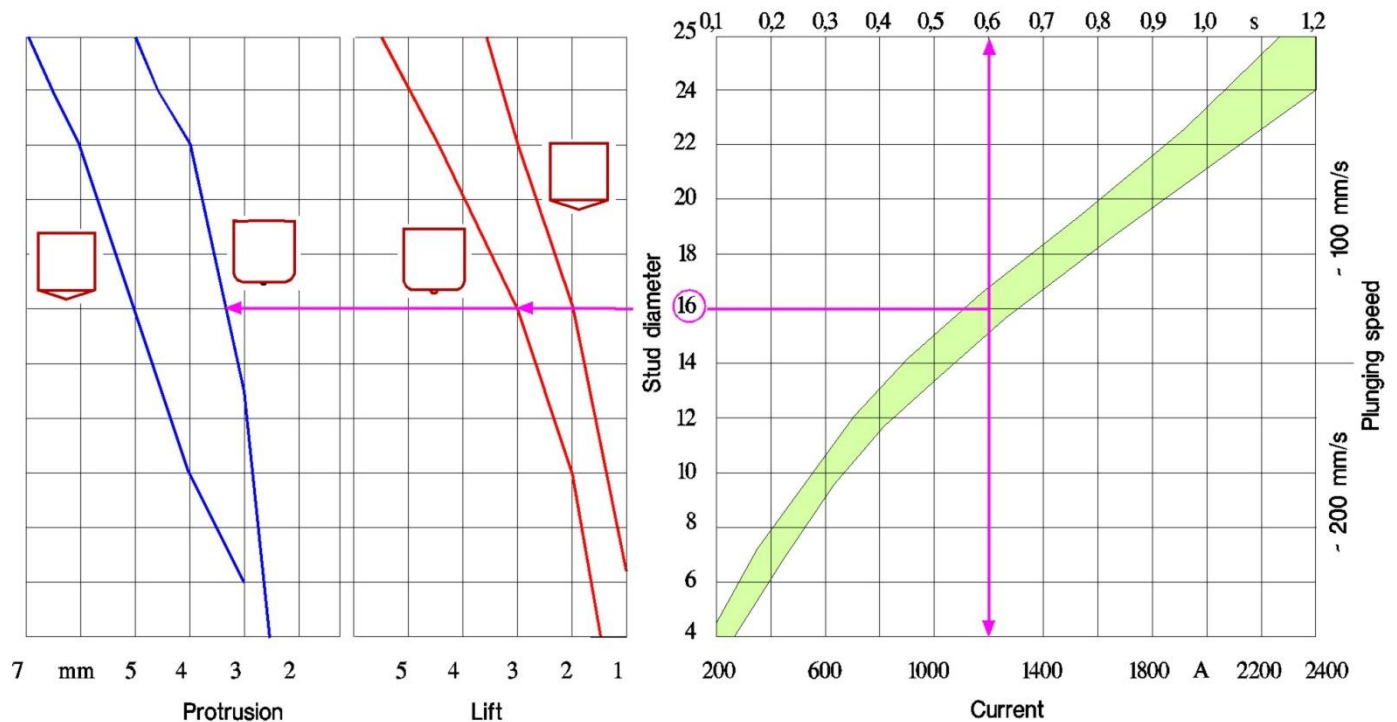
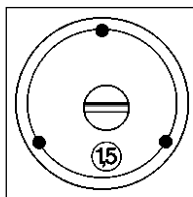

Figure 2: Parameters for current, time, lift, protrusion and damping (example for stud 16 mm diameter and flat tip)
Figure 5: Selecting the lift (except series SK 14 and SK 15)
In stud welding, lift and protrusion are important parameters. In most cases they can be selected to fit stud diameters, according to figure 2. The position of the weld or the kind of surface on the workpiece may necessitate some adjustments. In such cases, optimal settings should be obtained through test welds.
The settings given in figure 2 have been tested for welds on **clean metallic surfaces** and standard type studs in **downhand position**. The decisive parameter is the actual diameter at the welding end of the stud, not the nominal diameter. Under different conditions (other welding position, or oily, scaly or primer-coated surfaces) the optimal settings must be determined by test welds. With difficult surfaces, it may be necessary to considerably increase lift and welding time, and to reduce the welding current. When welding in a horizontal position, it is recommended to select higher current, protrusion and plunging speed than the given settings, and at the same time shorter cycles and lift. Please note that at the lower end of the welding range of large appliances it may be necessary to select values higher than those listed in the chart. This is caused by the relatively long phase for building up the current, which means that for a considerable part of the welding cycle the peak current is not yet reached. This must be compensated by lengthening the welding cycle or selecting a higher current.
9. Slide the footpiece with the legs in the damping guides until the correct protrusion is reached, see figure 2. Figure 4 shows a diagram of the supporting device.
10. **Setting of the lift (except SK 14, SK 14 short und SK 15):** Open the rear cap of the gun. Behind it there is an adapter screw for adjusting the lift in steps of 0.5 mm. (figure 5). **Do not set any in-between values!** Select lift settings according to figure 2.
The lift can only be adjusted in 0.5 mm steps. **Do not try to set any intermediate values!** Follow the instructions according to figure 2 when setting the lift.